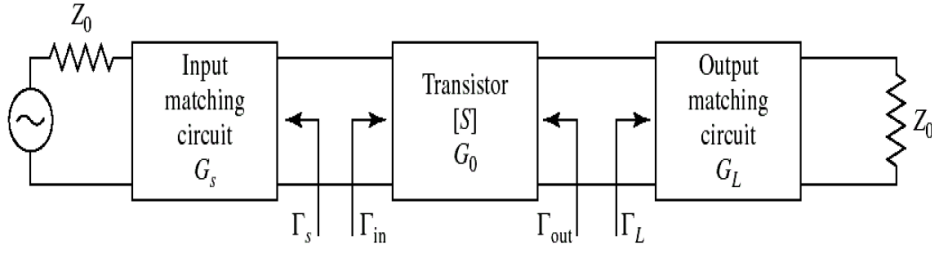

Figure 2: The general transistor amplifier circuit
A single-stage microwave transistor amplifier can be modeled in the circuit shown in Figure 2 [1]. For the particular application of achieving maximum gain relevant to this lab, the input/output matching circuit is to transfer source reflection coefficient  $\Gamma_s^0$  to the desired  $\Gamma_s/\Gamma_L$  expressed by eqns. (7) and (8).